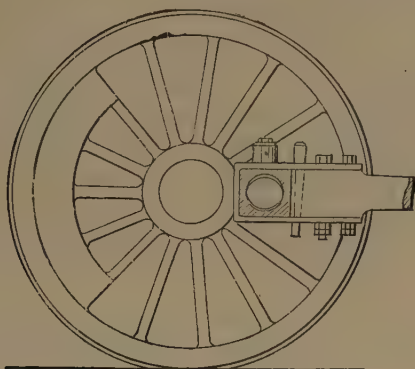

Fig. 188. Wheel and Crank.
A. When on the center, as shown in Fig. 188.